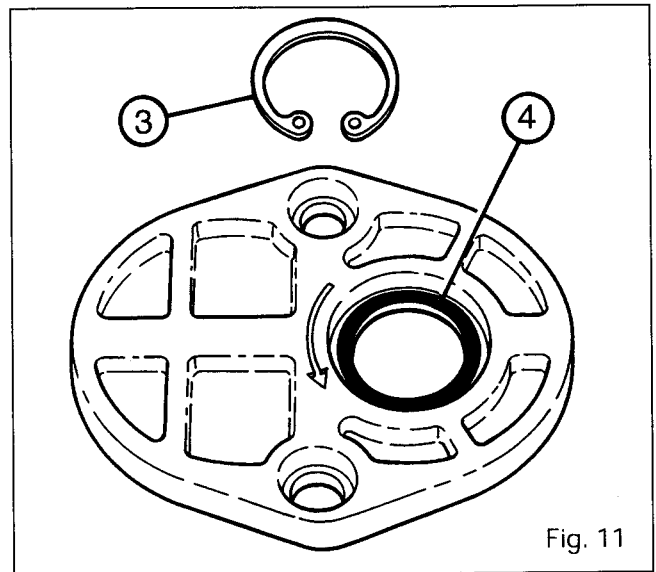
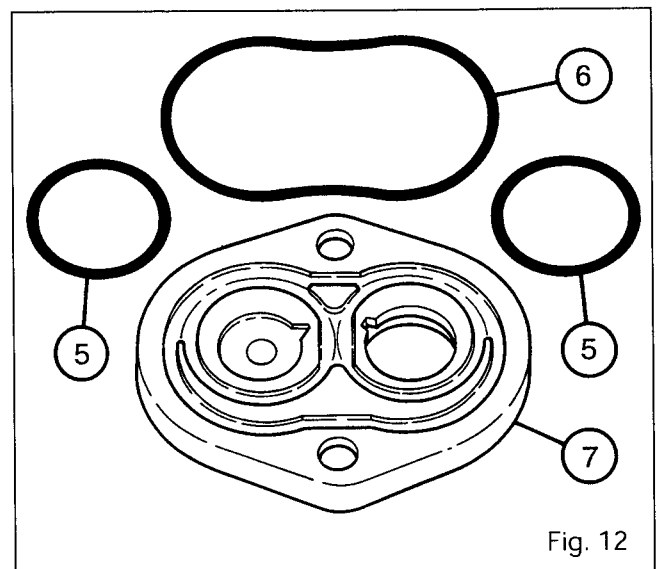

Fig. 11
Fig. 12
29. Remove the circlip **(3)**, the lip seal **(4)** (Fig. 11) and the O-rings **(5)** and **(6)** (Fig. 12).
31. Lightly smear the O-rings **(5)** and **(6)** with miscible grease and position them in the cover **(7)** (Fig. 12).